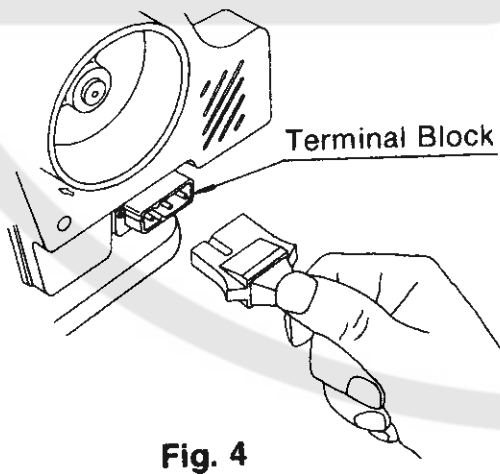

Fig. 4
C. Connection Motor Controller (Figs. 4–5)